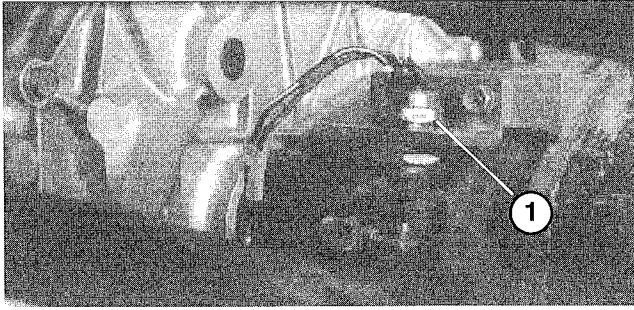

Figure 58
- Recheck clutch safety switch adjustment (Fig. 58). Engine must not crank unless clutch pedal is $1.25" \pm .25"$ from floor. If an adjustment is required, loosen switch jam nuts and adjust up or down.